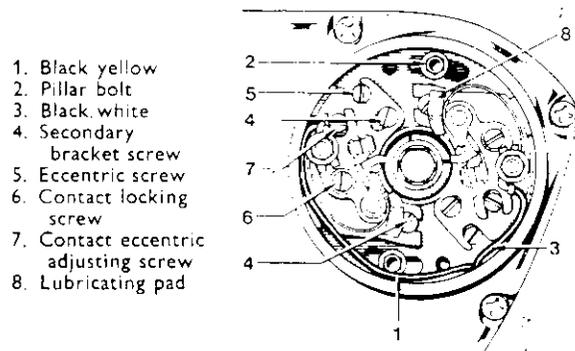

Fig. B21. Contact breaker
- (2) Repeat for the L.H. plug and adjust the timing by slackening off the clamping screw on the auxilliary backplate and turning the eccentric screw (see Fig. B21) until again the markings align. Timing is then correct. Refit the primary chaincase inspection plate.